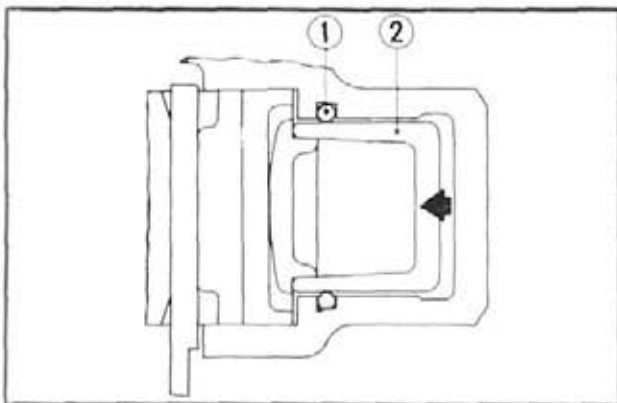

Fig. 14-2 ① Piston sea
3. The clearance of 0.002~0.004 in (0.05~0.1 mm) between the disc and the pad to be consistent with the wear of the pad. When hydraulic pressure is applied against the back of the piston, the piston seal first deforms and as the piston moves further, the piston slides over the piston seal until the pad contacts the disc (Fig. 14-2). When the hydraulic pressure is released, the deformed piston seal will return to its normal shape, and consequently, pulls the piston away from the disc by the amount of the piston seal deformation.